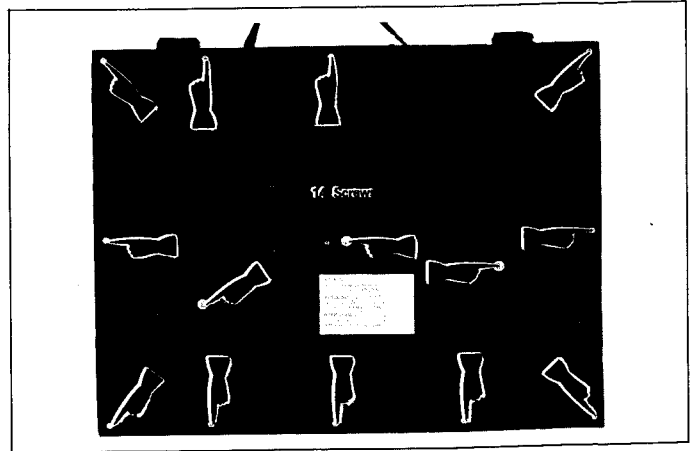

Figure 3-1
1. Remove fourteen (14) screws retaining the bottom cover. (Refer to Figure 3-1)